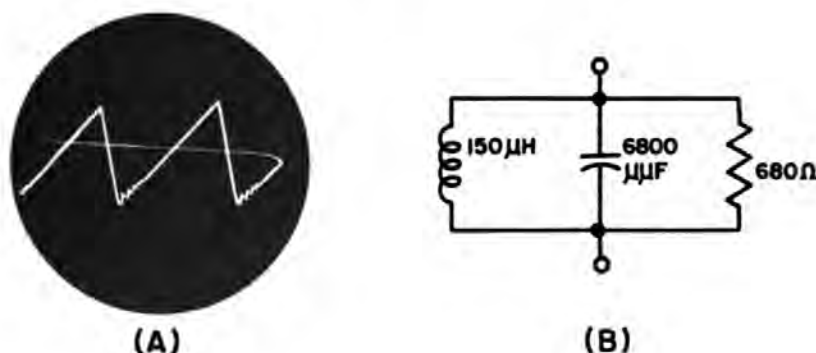

Fig. 7-13. (A) Ringing in sawtooth-current waveform. (B) Ringing filter.
horizontal adjustments are checked and found to be good. The current waveform in the horizontal deflection coil is observed with a scope (see the answer to *QUES. 7-16* for method) and a trace such as that illustrated in Fig. 7-13(A) is noted. What may be used to eliminate the ringing?
ANS. To eliminate ringing from the current waveform of a deflection coil, use a ringing filter similar to the one shown in Fig. 7-13(B). Connect this filter in series with the horizontal deflection coil.
DISCUSSION. The ringing filter indicated in Fig. 7-13(B) is resonant to approximately .5 mc. This filter can only be used to eliminate or reduce ringing that is present in the deflection coil current waveform. However, if the picture ringing is caused by improper peaking in the video amplifier section of the receiver, or by any other receiver trouble, this type of filter will be completely ineffective.